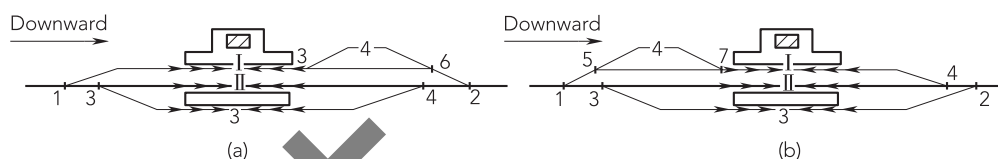

Fig. 1-1 Intermediate station
station. In order to complete the above-mentioned tasks, there are different tracks and devices shall be equipped at the intermediate station, for example, the receiving-departure track, head shunt and rail freight track, passenger transportation facilities like the station building, passenger platform, train shed and crossing equipment, as well as freight transportation facilities like the warehouse, freight platform, loading and unloading machinery. The intermediate station is shown in Fig.1-1 (a), (b).
1. **Directions:** Look at Fig. 1-1 and draw a sketch of the intermediate station.